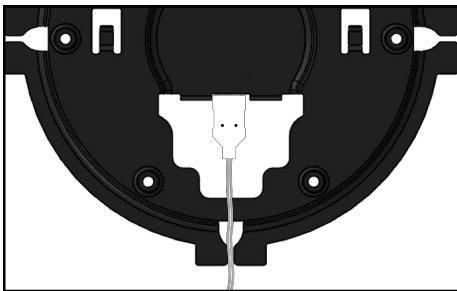

Figure 1
- a. If installing the Canvas in portrait orientation, make sure the power cable hangs straight down. See *Figure 1*.